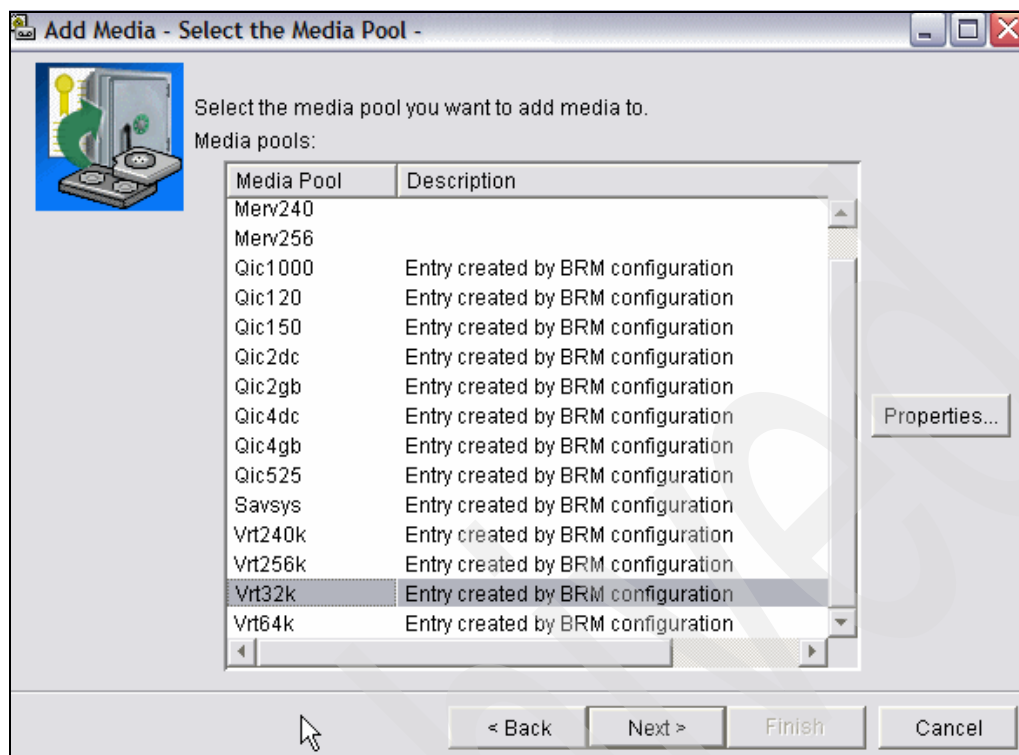

Figure 7-47 BRMS adding media, media pools
3. In the Select Media Pool page that appears, select the media pool (in this case, **Vrt32k**) as shown in Figure 7-47 on page 380.
4. In the Select media pool window shown in Figure 7-47 on page 380, since pool V32K is already selected, click **Next**.